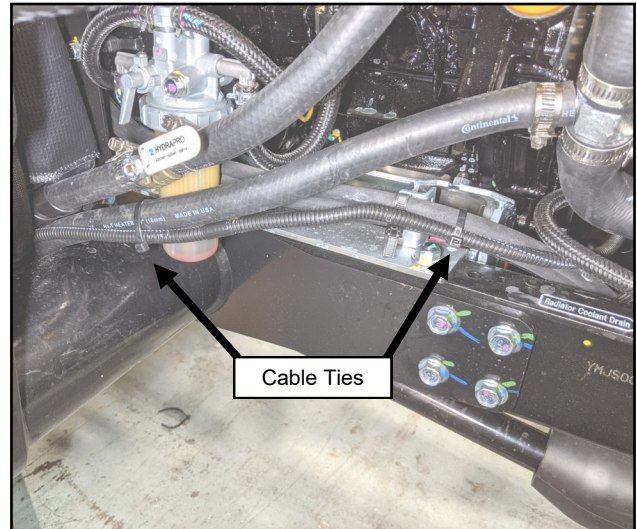

Fig. 19.2 (Secure Wiring Harness to Heater Hoses)
- 19.2** Use two more cable ties to secure the wiring harness to the heater hoses near the fuel filter as well as to the battery cables running along the frame. See Figure 19.2.